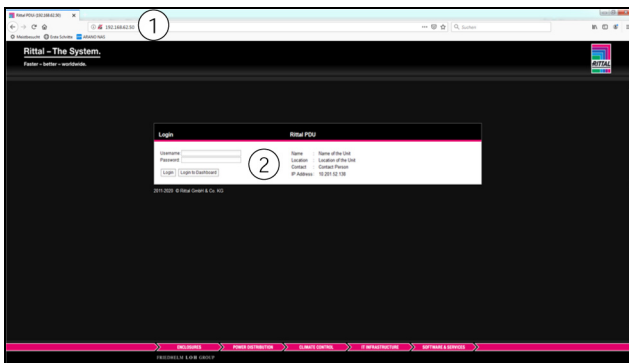

Fig. 35: Login dialogue for login on the device
- Enter the displayed IP address in the browser. In the example, `http://10.201.52.138` (see fig. 35, item 1). The login dialogue for login on the device is displayed.
- Log in with the username **admin** and the password **admin** (fig. 35, item 2).
- In the browser, enter the address **http://192.168.0.200** (fig. 35, item 1). The login dialogue for logging on to the device will be displayed.